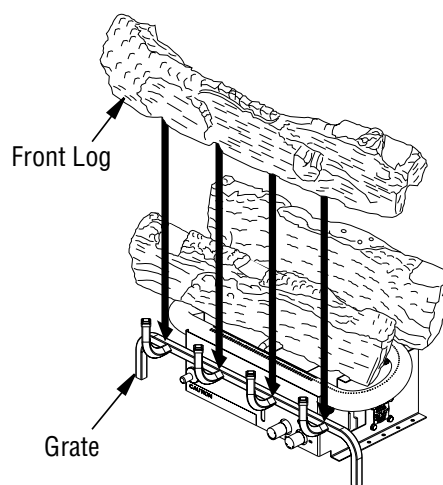

Figure 22 - Installing Front Log
3. Place front log onto grate as shown in **Figure 22**. Front log has cut outs for the fingers of the grate to fit into.